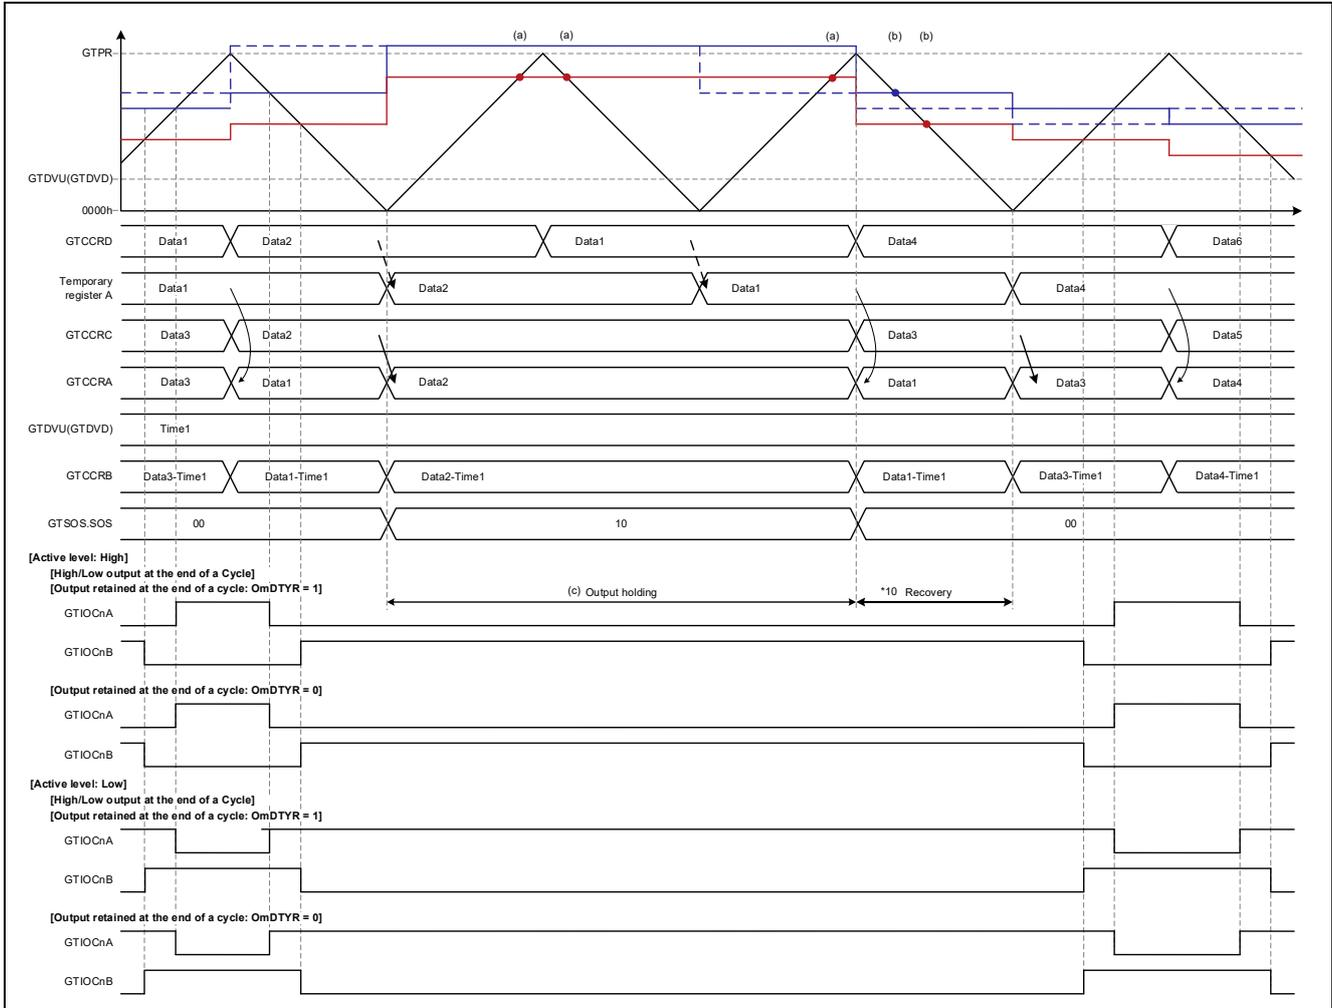

Figure 1.106 Triangle-Wave PWM Mode 3 Operation Example
- Operation Example 7: Figure 1.106 Triangle-Wave PWM Mode 3, Abnormal Value (Transfer at Trough)/Normal Value (Transfer at Crest), caution 10
Figure 1.106 shows an operation example of transfer of a value exceeding GTPR to GTCCRA via buffer transfer at trough and return via buffer transfer at crest of a normal value in triangle-wave PWM mode 3.